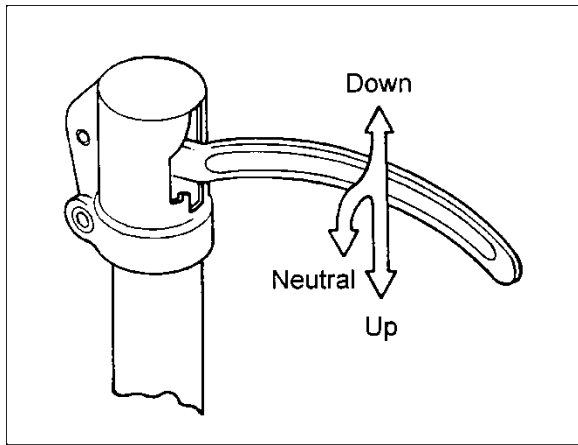

Figure 5
To raise forks, place handle in the UP position (bottom part of the handle slot), See Figure 5.
1. Lower forks to lowest position, Figure 5.
3. Place lever in UP position (bottom part of slot), Figure 5.
1. Place lever in NEUTRAL position (center notch of slot), Figure 5.
1. Pull lever to DOWN position (upper part of slot), Figure 5.
1. Set lever in NEUTRAL position, Figure 5.